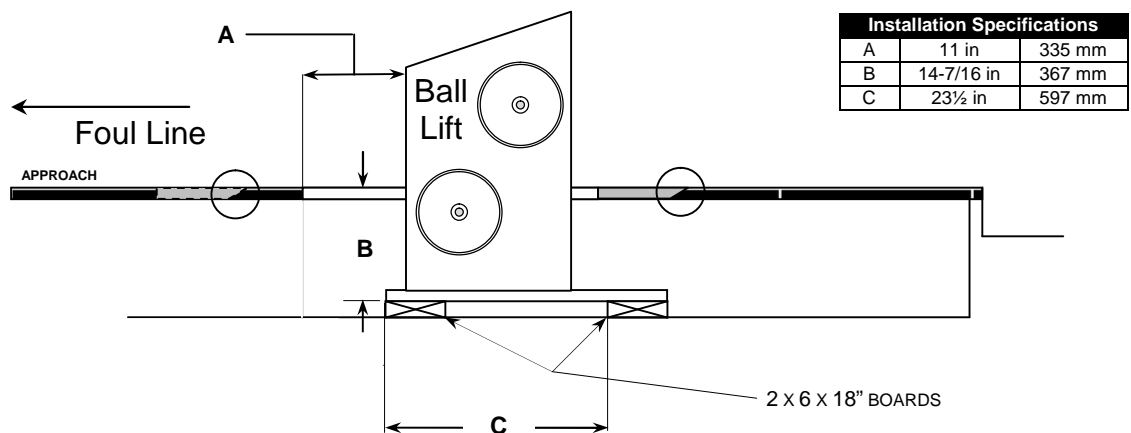

Figure 3, Ball Lift Installation – Side View
- When installing the Ball Lift on wood approaches, for the front and rear trap door cutouts (E and F on Figure 2), make angled cuts to provide a “lip” for the pieces to rest upon the subfloor structure to keep them in place, as shown in Figure 3. For the Ball Lift cutout, make straight cuts.
- Place the other 2 x 6 x 18-inch board on the subfloor parallel to the first board with its front edge 23.5 inches (597 mm) from the first board's front edge (see Figure 3).